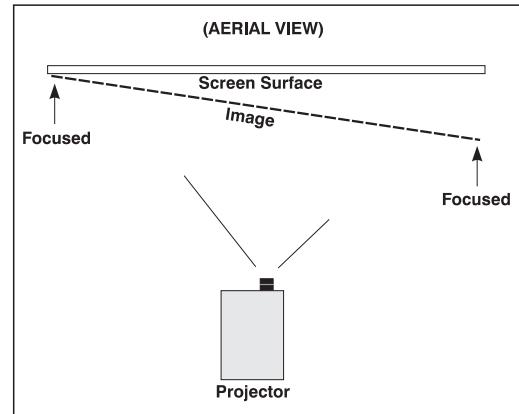

Figure 2.37 Example of Poor Left/Right Boresight
- *If focus on the paper improves*, this indicates that the right side of the image is focusing in front of the screen. See Figure 2.37.